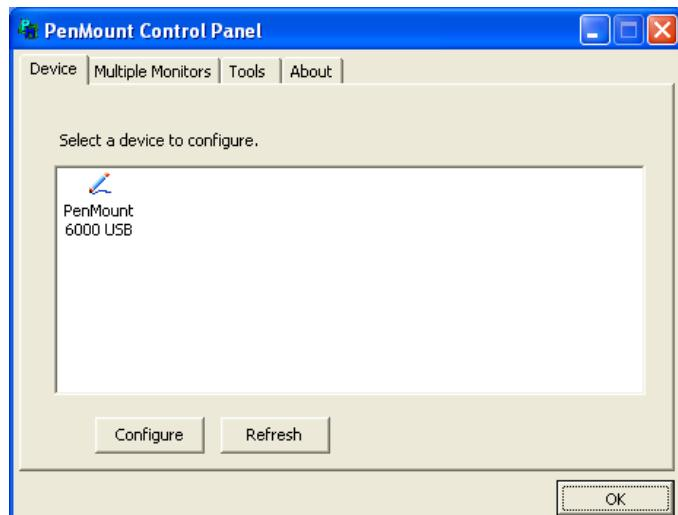

FIGURE 18. PenMount Control Panel
3. Select the “PenMount 6000 USB” device, and click “Configure”. See FIGURE 18.